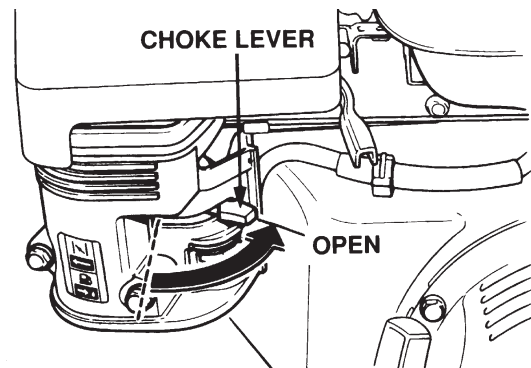

Figure 21. Choke Lever (Open Position)
5. If operating the SP2S13H20A in **cold weather conditions**, skip this step and proceed to step 6. Place the **Choke Lever** (Figure 21) in the **OPEN** position. Skip to step 7.